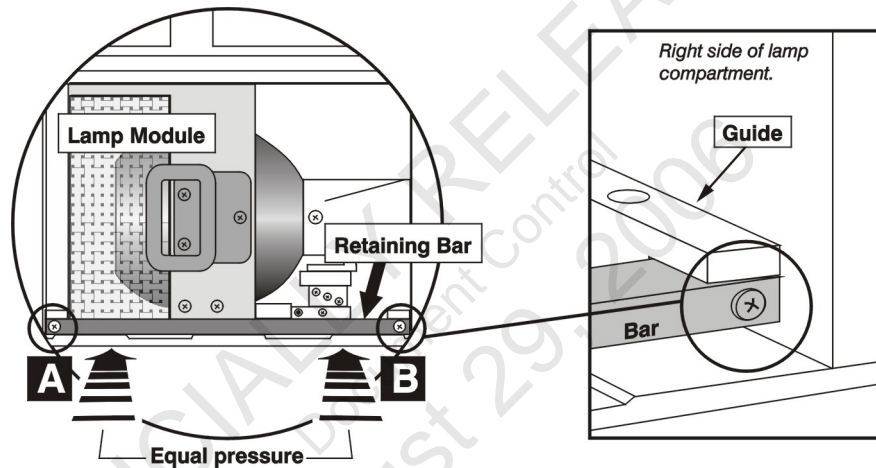

Figure 5. Install Retaining Bar
- (d) Go back and forth between **A** and **B** to lock the bar in place with even pressure and correctly position the lamp module. Refer to Figure 5.